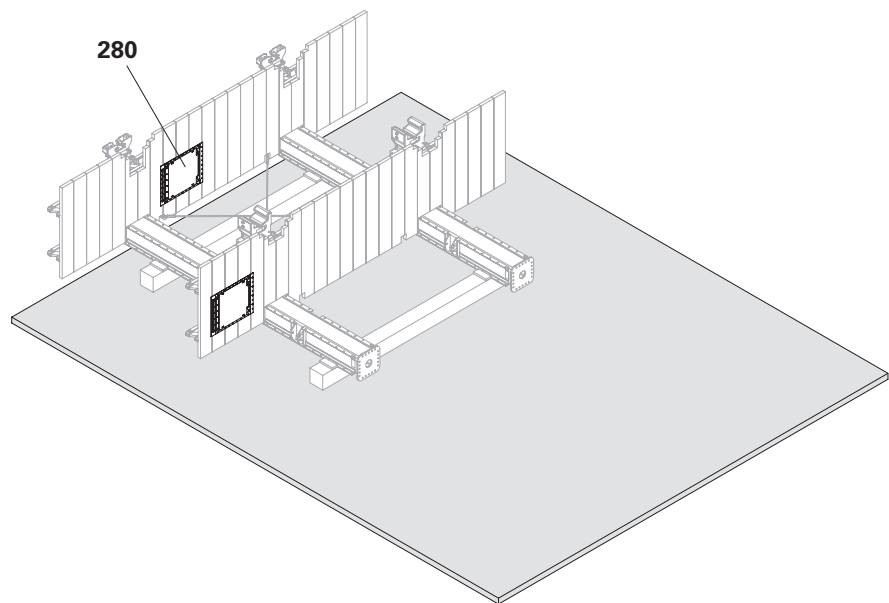

Fig. B4.16
13. Fit the hatch (**280**), see "Fitting the descent hatch" on page 67. (Fig. B4.16)